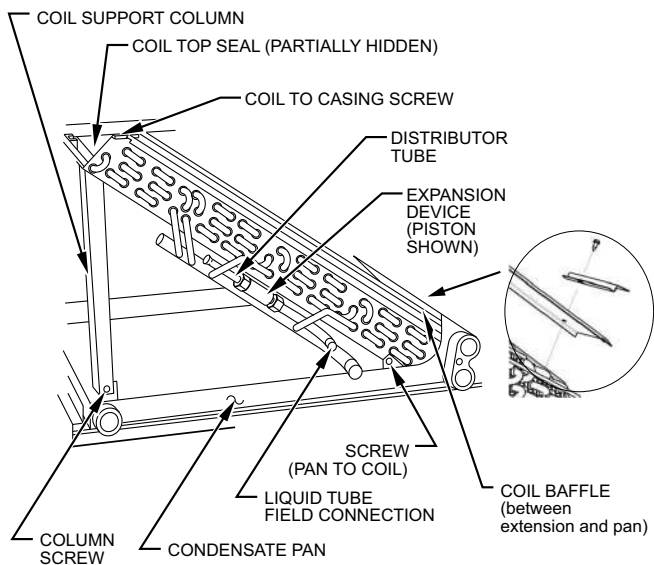
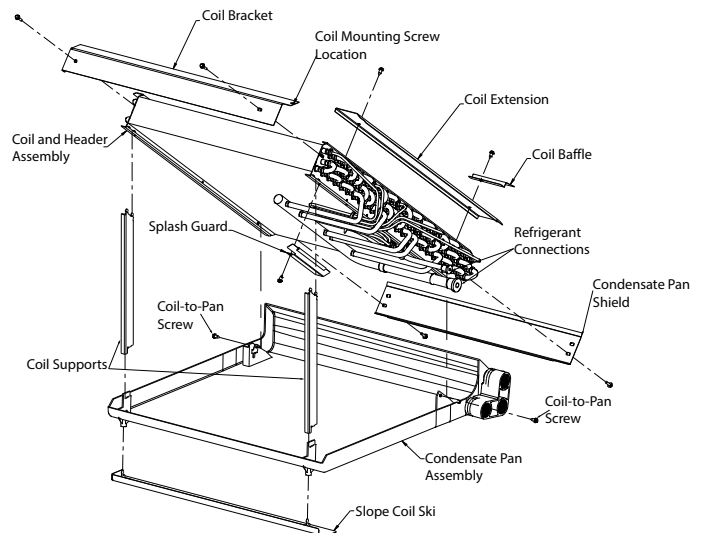

Fig. 30 – Slope Coil Component Location (Prior to 1996) ^{A14304}
Fig. 31 – Slope Coil Component Location (1996 and Later) ^{A14307}
8. Place assembly on a flat surface. On units manufactured prior to 1996, remove two screws securing coil support columns to pan (Fig. 30).
10. Remove two screws securing coil to condensate pan (Fig. 30 and Fig. 31).
12. Attach new painted Top Seal to new coil using brass colored screws included with packaging (Fig. 30 and Fig. 31).
13. Remove screw at bottom of coil extension and reuse to attached Coil Baffle in same location. Long side of baffle toward pan (Fig. 30 and Fig. 31).
15. Install new coil pan assembly into unit and secure with one screw previously removed from unit casing (Fig. 30).